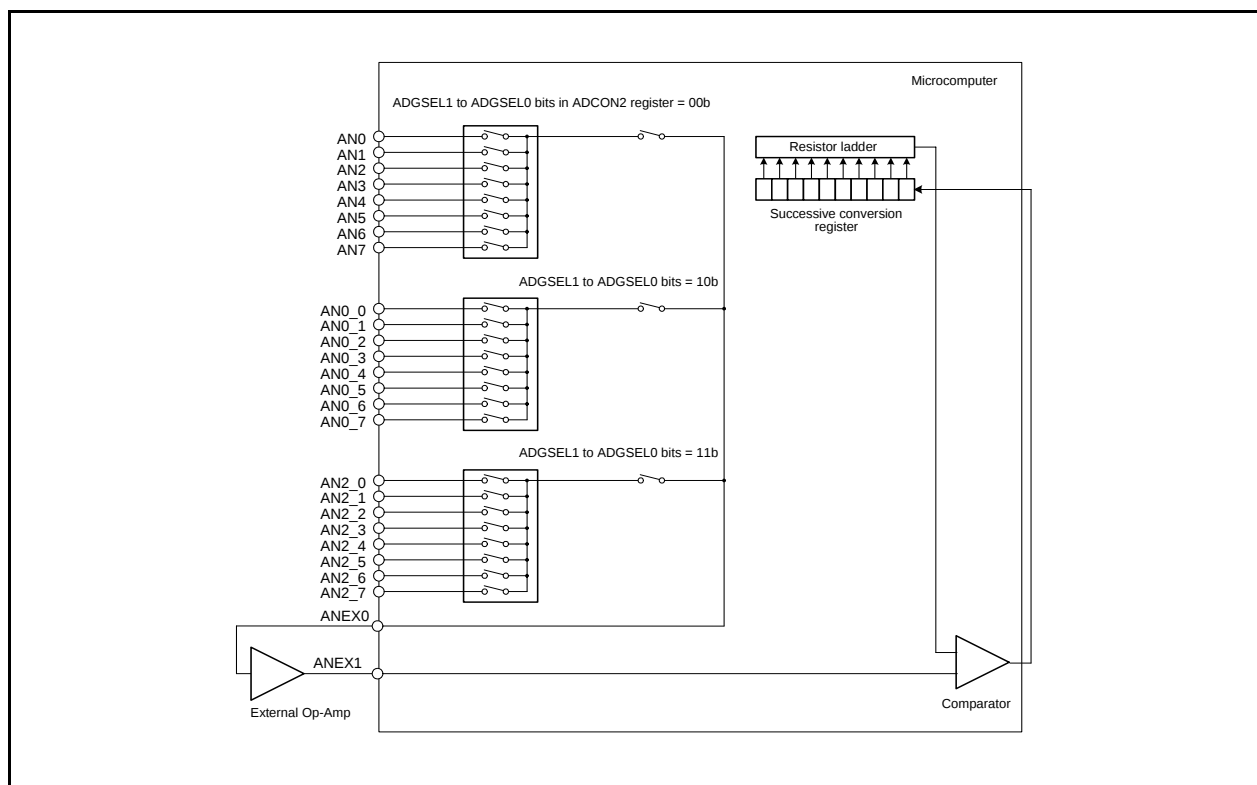

Figure 18.10 External Op-Amp Connection
Multiple analog inputs can be amplified using a single external op-amp via the ANEX0 and ANEX1 pins. Set the OPA1 to OPA0 bits in the ADCON1 register to “11b” (external op-amp connection mode). The inputs from ANi ($i = 0$ to 7) (1) are output from the ANEX0 pin. Amplify this output with an external op-amp before sending it back to the ANEX1 pin. The A/D conversion result is stored in the corresponding ADi register. The A/D conversion speed depends on the response characteristics of the external op-amp. Figure 18.10 shows an example of How to Connect the Pins in External Op-Amp.